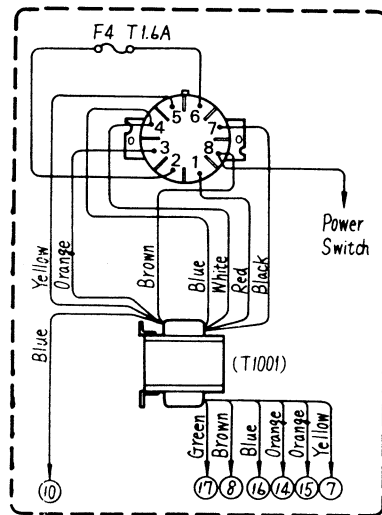

Fig. 9
1. When using the part number ESE37200, connect as shown in fig. 9.